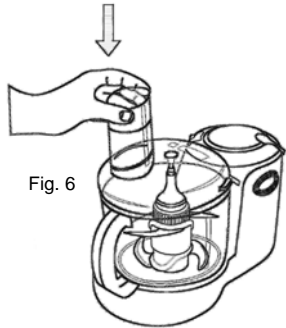
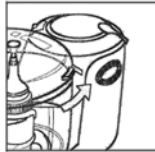

Fig. 6
Fig. 7
- Then holding the processor lid by the feeding tube, place the processor lid onto the bowl and turn counter clockwise to lock the lid in place. Ensure that the lid tab has "clicked" into place and that the arrow on the lid is aligned with the dot on the unit. Insert food pusher into feed chute. (Fig. 6 & Fig. 7)